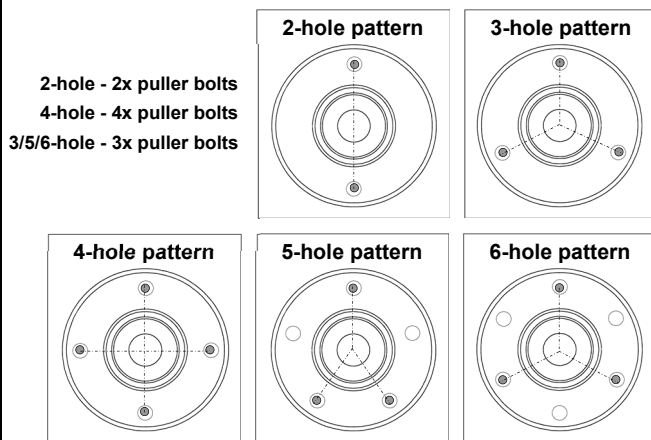

Abb. 2: Removing a Drive Shaft.
3. Screw drive into puller plate and remove drive shaft. **(Fig. 2)**